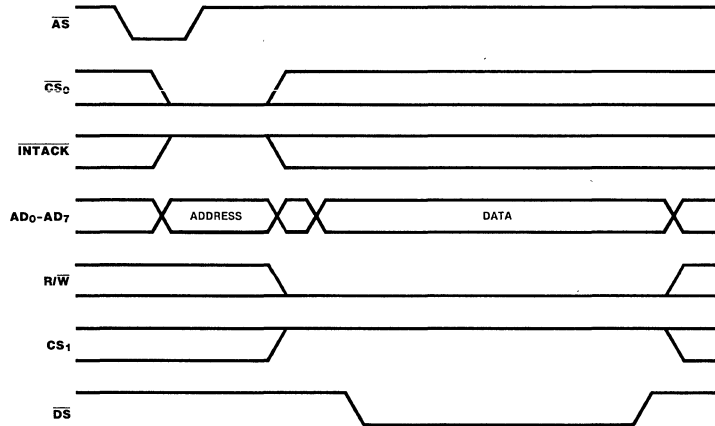

Figure 16. Write Cycle Timing
**Write Cycle Timing.** Figure 16 illustrates Write cycle timing. The address on  $AD_0-AD_7$  and the state of  $\overline{CS}_0$  and  $\overline{INTACK}$  are latched by the rising edge of  $\overline{AS}$ .  $R/\overline{W}$  must be Low to